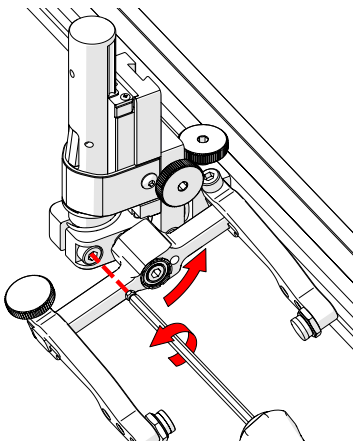

Fig. 99 - Loosen 3 mm screw
2. Using the supplied 3 mm hex driver loosen the transverse adjustment screw (*Fig. 99*) and rotate the yoke about the vertical shaft achieving the desired angle.